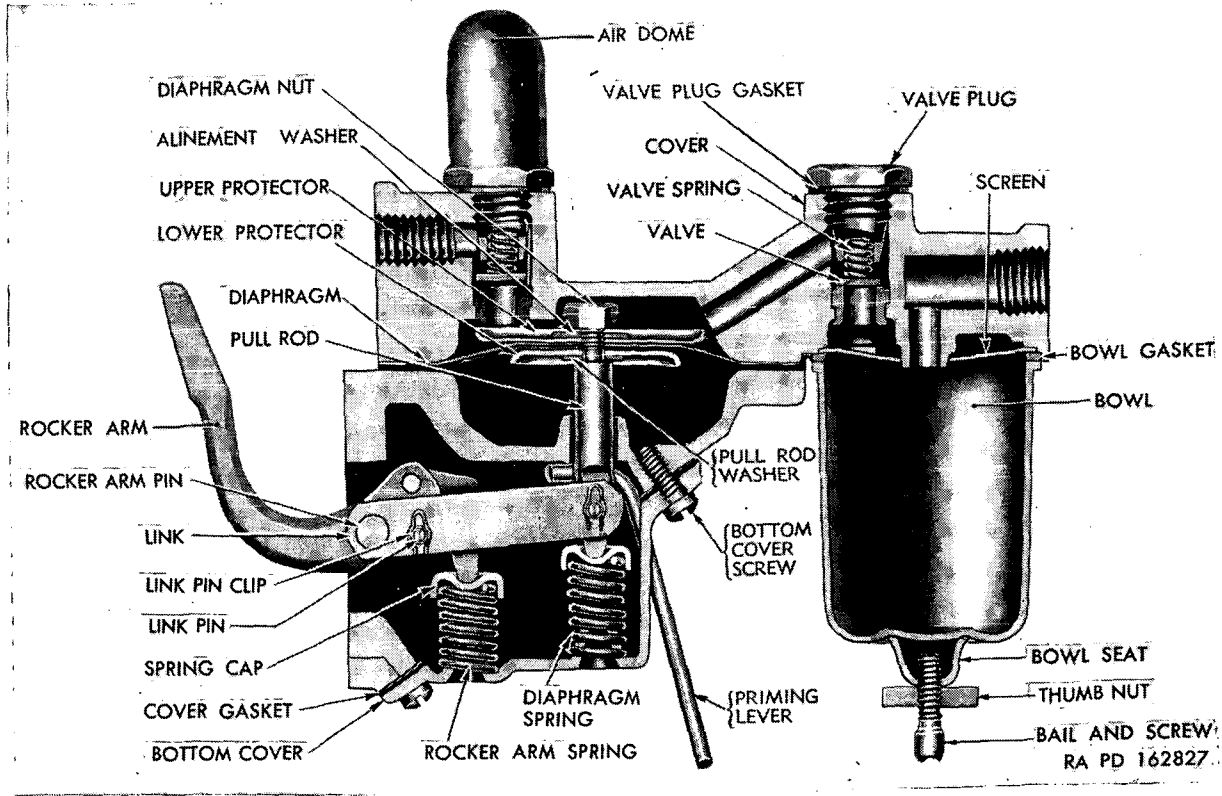

Figure 1. Fuel pump, series B—sectional view.
(figs. 1 and 2)
- (1) *Mechanical action.* Operation is accomplished through a rocker arm on the pump contacting an eccentric on the engine camshaft. Downward movement of the pump diaphragm, or the suction stroke, is caused by the rotation of an eccentric on the camshaft actuating the pump rocker arm. This pulls the diaphragm downward against the pressure of the diaphragm spring, producing a vacuum in the fuel chamber. Pressure in the outlet line forces the outlet valve closed against the vacuum and pulls the inlet valve open, atmospheric pressure in the supply tank forces fuel through the inlet, the filter screen, and the inlet valve into the vacuum of the fuel chamber. On the return stroke of the rocker arm, the diaphragm spring forces the diaphragm upward, the inlet valve closes, and the outlet valve is forced open, allowing fuel to flow through the outlet to the carburetor.
- (2) *Link action.* The link is hinged to the rocker arm so that the link and the connected diaphragm can be moved down, but not up, by the rocker arm (fig. 1). The link and the diaphragm are moved upward only by the diaphragm spring. The pump, therefore, delivers fuel to the carburetor only when the fuel pressure in the outlet line is less than the pressure maintained by the diaphragm as a result of the force of the diaphragm